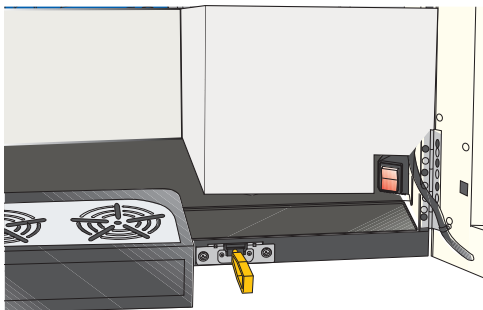

Fig. 7
- Switch the main switch of the machine on (fig. 7).